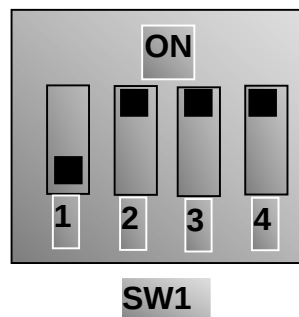

Figure 8-5
- vi. There is a red four-digit coding switch SW1 near the control terminal blockr, as shown in Figure 8-5. The function of coding switch is to select the input range (0~5V/0~10V/0~20mA) of analog input terminal AI1 and AI2. In actual application, select the analog input channel through F203. AI1 channel default value is 0~10V, AI2 channel default value is 0~20mA. Other states and modes of these switches are shown in table 8-3.